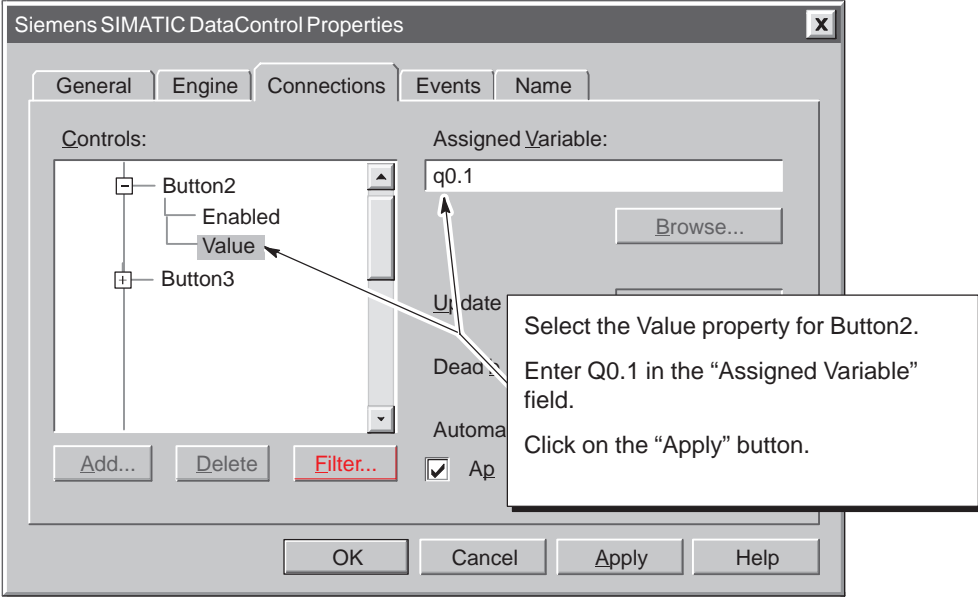

Figure 3-19 Assigning the Variable for Button2
- 7. With the Value property for Button2 selected, enter q0.1 in the "Assigned Variable" field. See Figure 3-19.